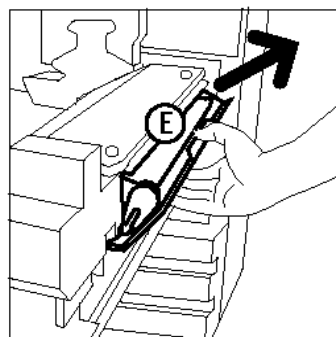

Figure 36: Removing the Cleaning Web
- 5 Gently push down on the Cleaning Web (E) and pull it toward the right to remove the web from the copier/printer, as illustrated in Figure 36.